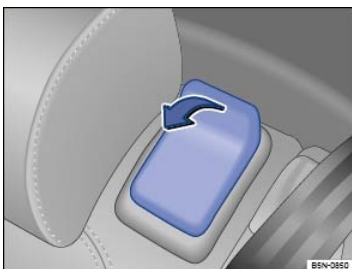

Fig. 82 In the second row: Entry assistance lever.
- Remove any objects from the second row seat footwell ⇒ ①.
- Pull the lever ⇒ *Fig. 82* up and toward the front of the vehicle (arrow).
- Pull the lever ⇒ *Fig. 82* toward the front of the vehicle in the direction of the arrow and fold the second row backrest into the upright position ⇒ ⚠.